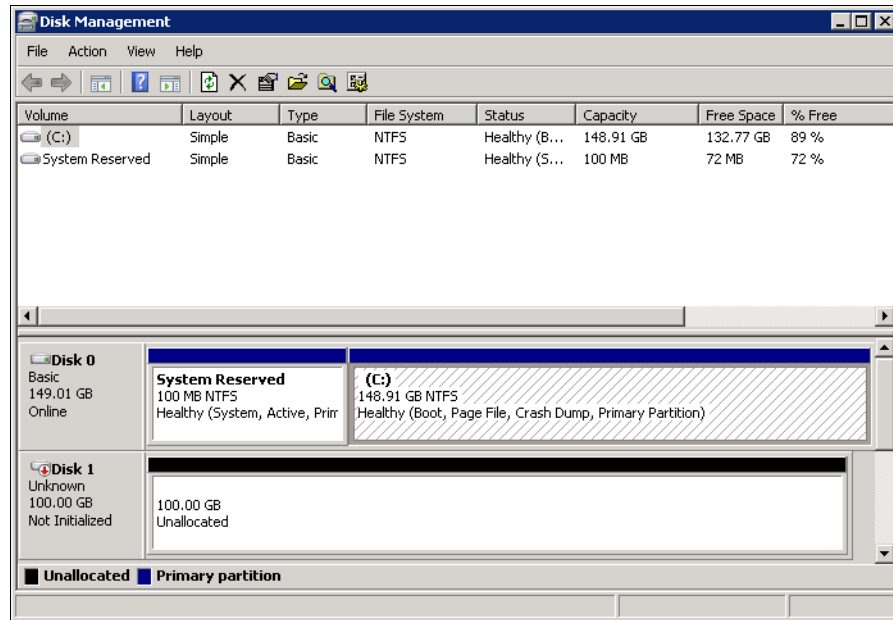

Figure 5-56 Windows Disk Management
- Open the Windows Disk Management window (as shown in Figure 5-56) by clicking **Start** → **Run**, entering `diskmgmt.msc`, and then clicking **OK**.